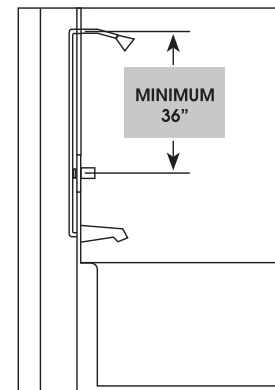

FIG. 3
3. For TUB & SHOWER installations, 36" MUST be allowed between valve and shower head to prevent stacking. SEE FIG. 3